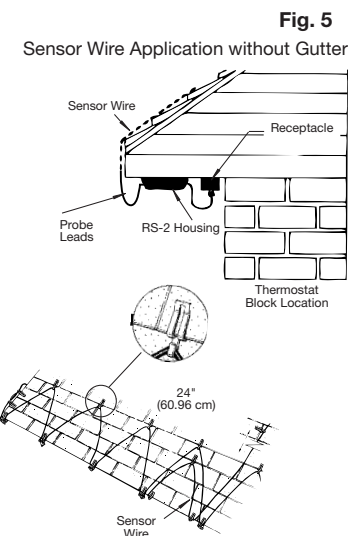

Fig. 5
8. For Roof without gutter- Lay the sensor wire along the triangular weave of the heating cable as shown on Fig. 5 and secure the main housing under the eave of the roof as shown on Fig. 5.